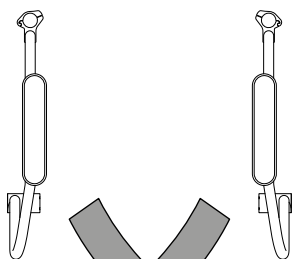

Fig. 15
1. The standard position allows for abduction of the leg position (Fig. 15).